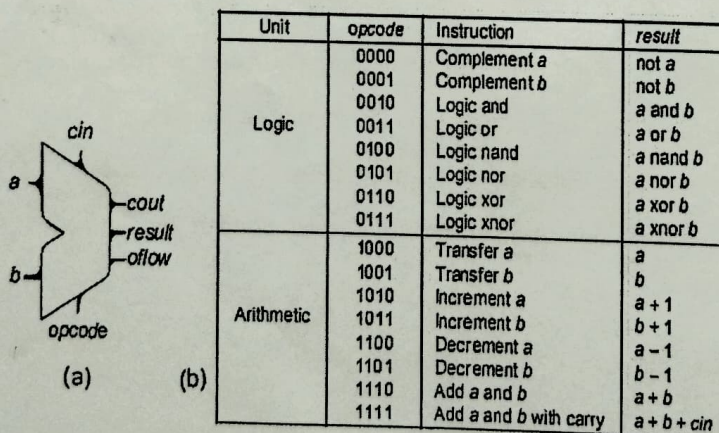

Fig.2. ALU
5. Develop a VHDL code to model a 64-bit Arithmetic and Logical Unit(ALU) as shown in Fig.2.